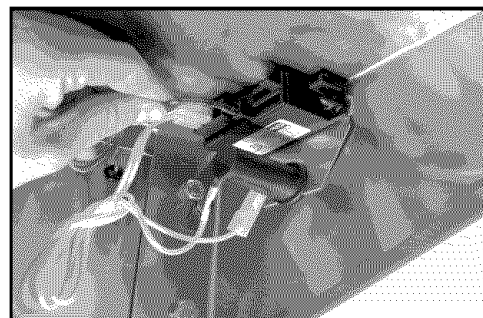

Fig. 6
2. Attach the wires coming out from the sides of the grill to the ignitor terminals. (See Fig. 6)